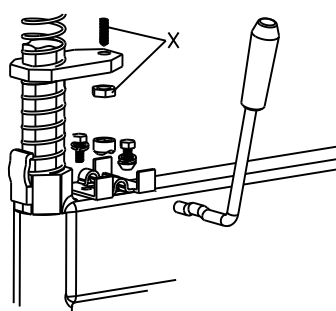

Fig 26
Note: If Vertical Arm not be locked or not meet the requirement that 2-3mm from the bottom of Mounting head/demounting head to rim, please adjust Hexagonal Locking Plate, refer to Fig 26 and adjust the (X).